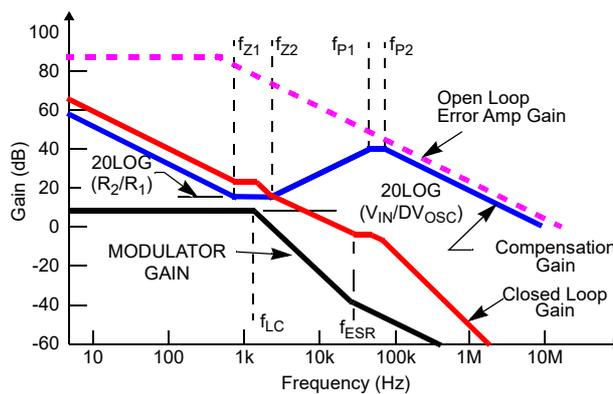

Figure 60. Asymptotic Bode Plot of Converter Gain
Figure 60 shows an asymptotic plot of the DC/DC converter’s gain vs frequency. The actual modulator gain has a high gain peak due to the high Q factor of the output filter and is not shown in Figure 60. Using the guidelines provided should give a compensation gain similar to the curve plotted. The open-loop error amplifier gain bounds the compensation gain. Check the compensation gain at f_{P2} with the capabilities of the error amplifier. The closed-loop gain is constructed on the graph of Figure 60 by adding the modulator gain (in dB) to the compensation gain (in dB). This is equivalent to multiplying the modulator transfer function to the compensation transfer function and plotting the gain. The compensation gain uses external impedance networks Z_{FB} and Z_{IN} to provide a stable, high bandwidth (BW) overall loop. A stable control loop has a gain crossing with -20dB/decade slope and a phase margin greater than $+45^\circ$. Include worst case component variations when determining phase margin. A more detailed explanation of voltage mode control of a buck regulator can be found in *TB417: Designing Stable Compensation Networks for Single Phase Voltage Mode Buck Regulators*.